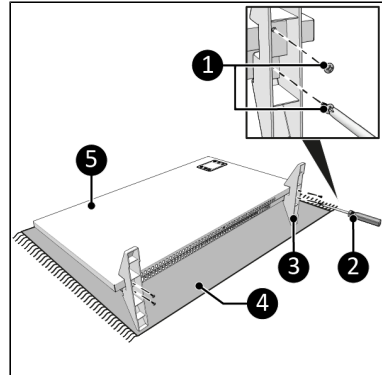

Figure 24.
1. Lay the device down on a steady soft surface (Figure 24, pos. 4).
2. Place the pedestals (Figure 24, pos. 3) on both sides of the main body (Figure 24, pos. 5).
3. Screw and tighten the pedestals with a small screw (Figure 24, pos. 1) using a Phillips screwdriver (Figure 24, pos. 2).